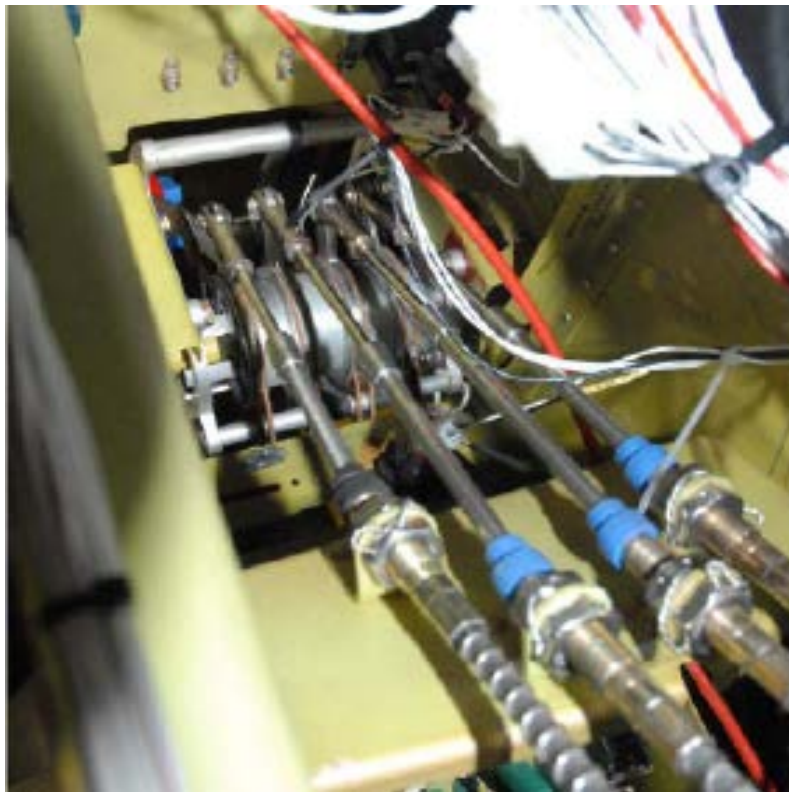

FIGURE 76-10 - Control Quadrant Lever Identification
- A. Position each of the control cable bulkhead fittings as shown in Figure 76-10, and loosely screw the jam nuts up to the tab or bracket that secures the cable. Do not tighten them at this time.